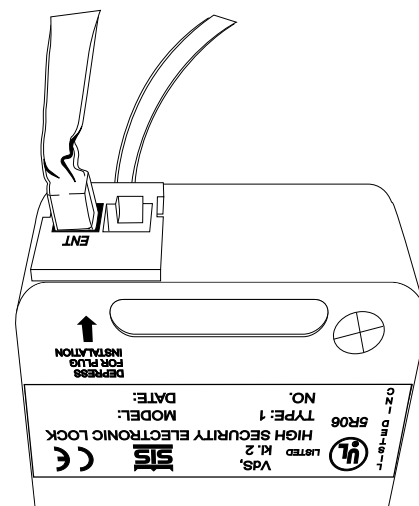

Figure 11
6. Connect the cable coming from the Entry Device directly into the connector port marked ENT on the lock (Figure 11).